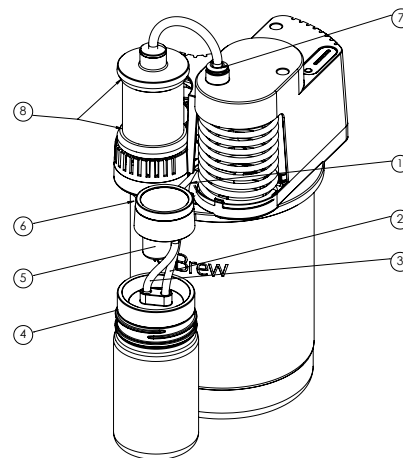

Figure 1
1. One at a time, pinch the hoses at points 1-3 in *Figure 1* verifying that PicoStill's internal pressure drops at each point. Release each hose before moving on to the next point in the system.
2. Check points 4-6 in *Figure 1* to make sure all components are seated correctly. In particular, ensure that the Heads Trap Vial (point 5) is inserted all the way into the Heads Trap.
3. Remove the Copper Vapor Arch and plug point 7 in *Figure 1* to verify that pressure drops. Replace the Copper Vapor Arch once pressure drop is detected.
4. Ensure that the column is properly assembled and seated at point 8 in *Figure 1*. If you are using copper mesh inside the column, make sure that no mesh strands are interfering with the seal at the top or bottom of the column.
The vacuum pump operates very close to point 1 in *Figure 1*. If you are moving along the testing points described above and PicoStill pulls a good vacuum at one point, but does not pull a good vacuum at the next point, then the vacuum leak is between the two points. Examine for causes of the leak and contact our customer service team at info@picobrew.com.